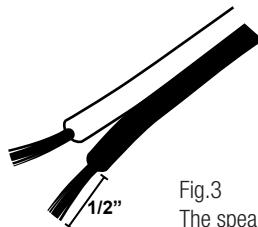

Fig.3
6. Connect the speaker wire coming out of the tower bar to the speaker wire coming out of the Pod. Note the polarity (the black wire from the Pod is negative -) See Fig. 3